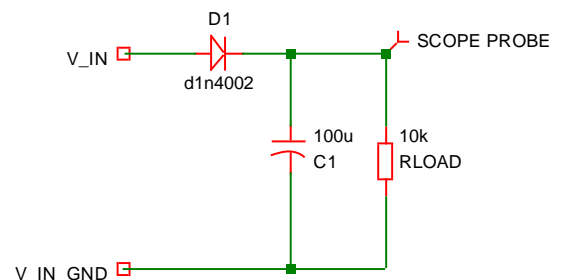

Fig. 3: Smoothing capacitor is now 100 uF.
- Step 2c: Fig. 3 shows the next circuit for testing.